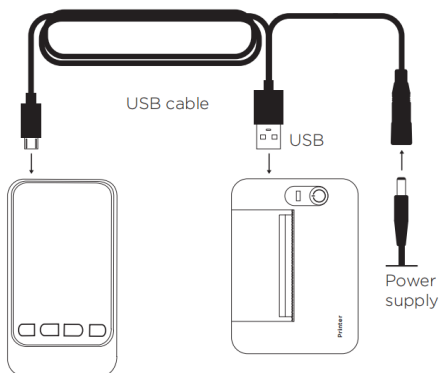

Figure 2.1
- 1) Connect one end of the USB cable to the adapter (the adapter is connected to the power supply), one end to the USB interface of the printer, and one end to instrument, as shown in figure 2.1. The printer must be connected to power supply when in use.